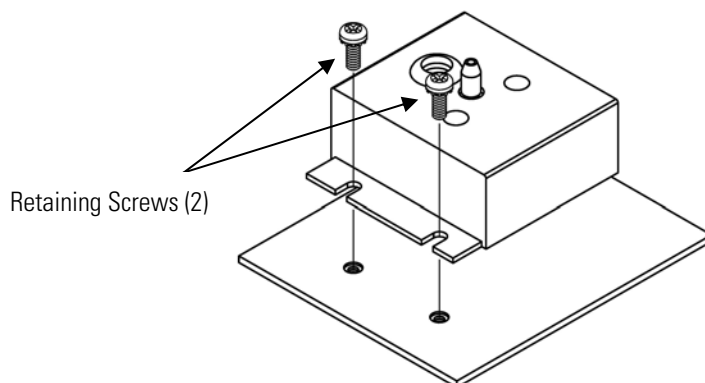

Figure 7–16. Replacing the Pressure Transducer
4. Remove the two pressure transducer assembly retaining screws and remove the pressure transducer assembly (Figure 7–16).